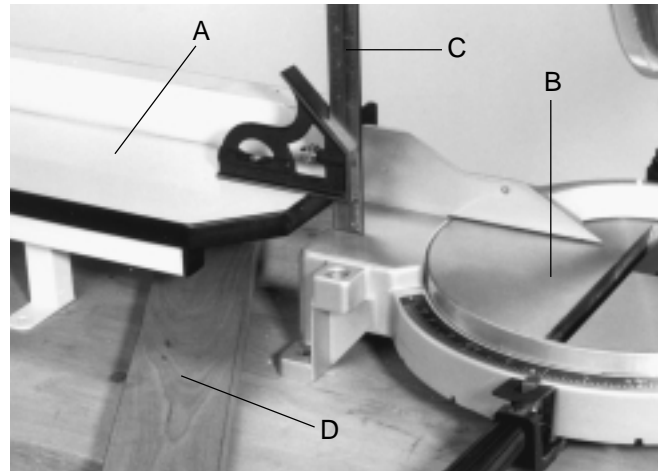

Fig. 2
1. Place the saw tables, one of which is shown at (A) Fig. 2, on a workbench or other suitable flat surface.
2. Position the miter saw (B) Fig. 2, next to the miter table as shown, and using a combination square (C), measure the distance the saw table is below the surface of the miter table.
3. Plane a piece or pieces of hardwood stock (D) Fig. 2, to the same thickness that the saw is below the miter table surface. This is the distance which was determined in **STEP 2**.